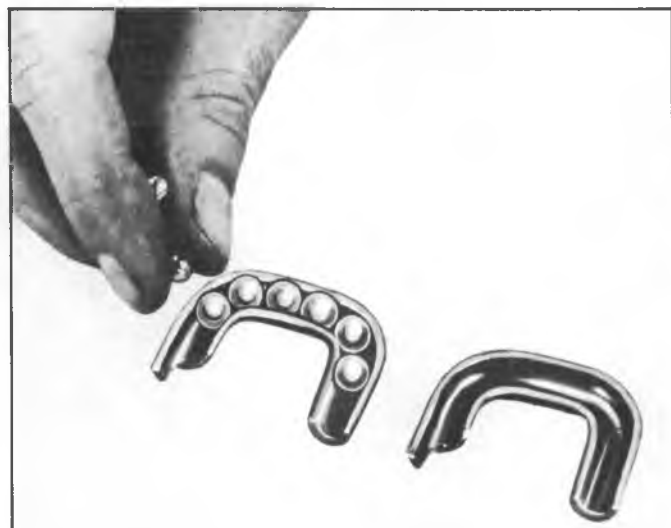

Fig. 12--Filling Ball Guides
5. Lay one-half of the ball guide, groove up, on the bench and place the remaining balls from the count container in it (fig. 12). The number of the balls remaining should just fill the guide.